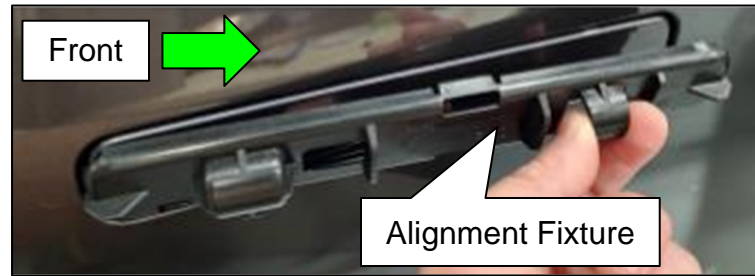

Figure 30
27. Carefully remove the Alignment Fixture starting with the front side of the Outside Door Handle as shown in Figure 30.